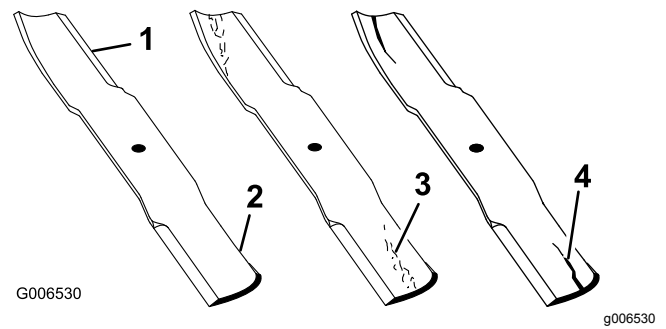

Figure 74
1. Inspect the cutting edges (Figure 74).
4. If you notice any cracks, wear, or a slot forming in this area, immediately install a new blade (Figure 74).